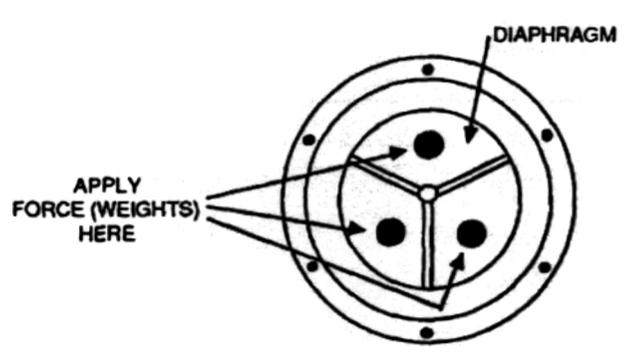

Figure 6-1. Weight Locations for Adjusting PCV
- a. **Revision C** With PCV rod in vertical position, apply 3.7 ± 0.2 lb force to the diaphragm (equally applied in three places, as shown in figure 6-1).
Revision D With PCV rod in vertical position, apply 3.4 ± 0.2 lb force to the diaphragm (equally applied in three places, as shown in figure 6-1).